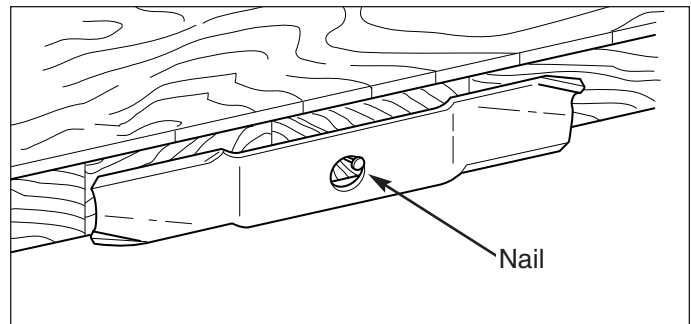

Figure 20. Balancing The Blade
4. Balance the blade as shown in Figure 20. Center the blade's hole on a nail lubricated with a drop of oil. A balanced blade will remain level.